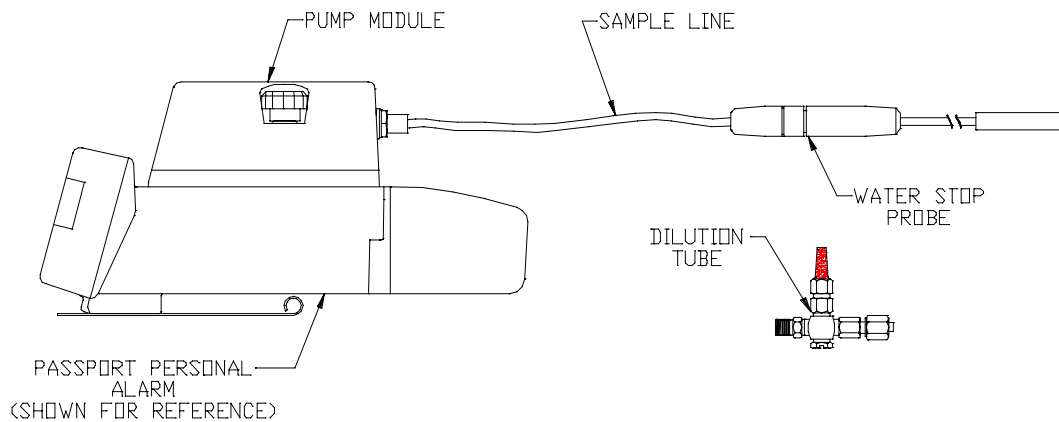

Figure 1.
1. Using a calibrated instrument unit without the dilution tube, take and record an oxygen reading from the inert area (FIGURES 1 and 2).